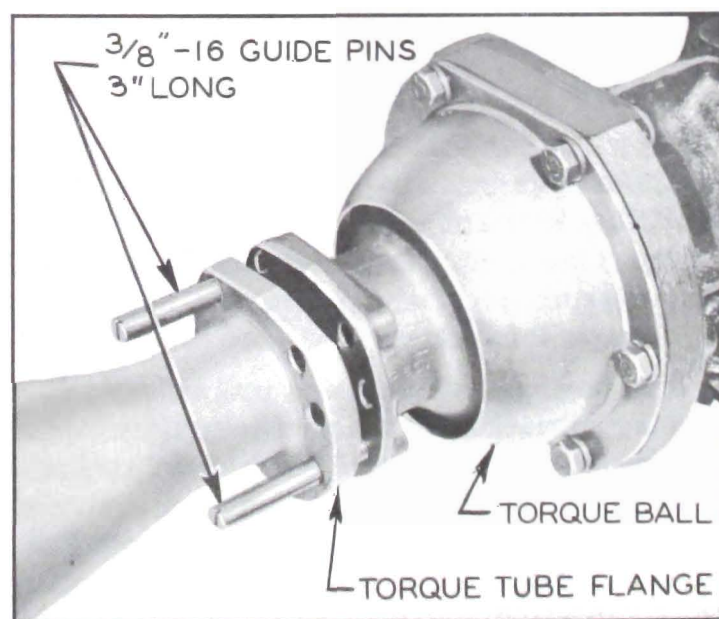

Figure 6-3—Removing Torque Tube from Torque Ball
6. Remove two opposite torque tube flange bolts, replacing them with two 3" guide pins. Remove other flange bolts. See Figure 6-3.